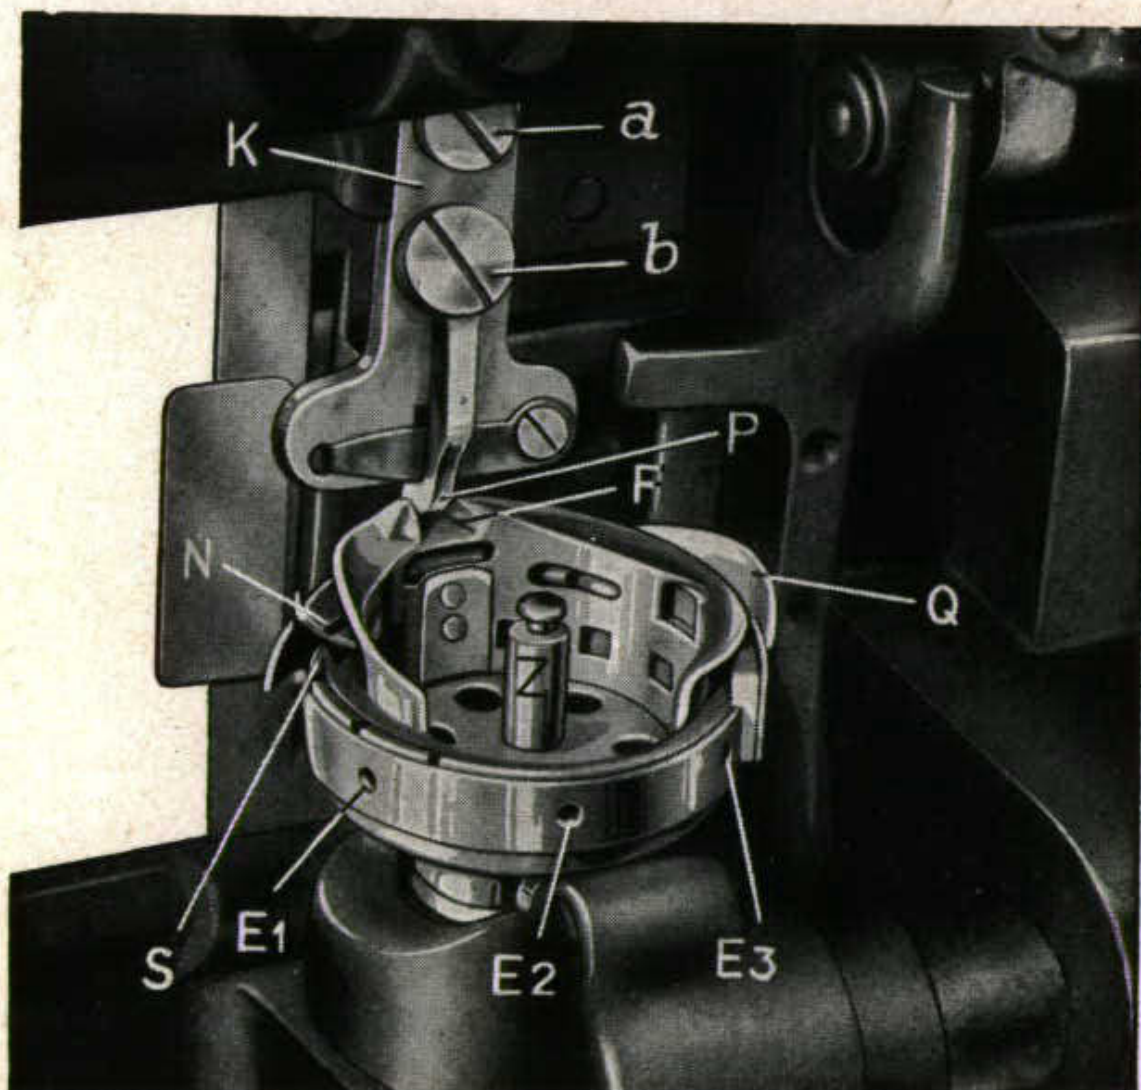

Fig. 13
12. To take apart and clean the hook (Fig. 13)